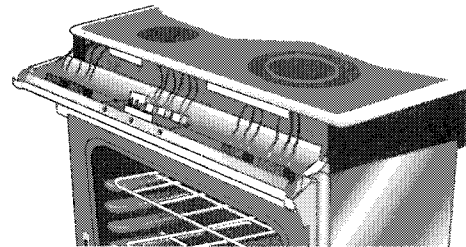

Fig. 11
4. Open the oven door completely and remove the two (2) screws securing the bottom of the console panel to the oven frame. (Fig. 11)
5. Lift the front of the cooktop up to disengage the lip of the cooktop from the channel in the top of the console panel. (Fig. 11)